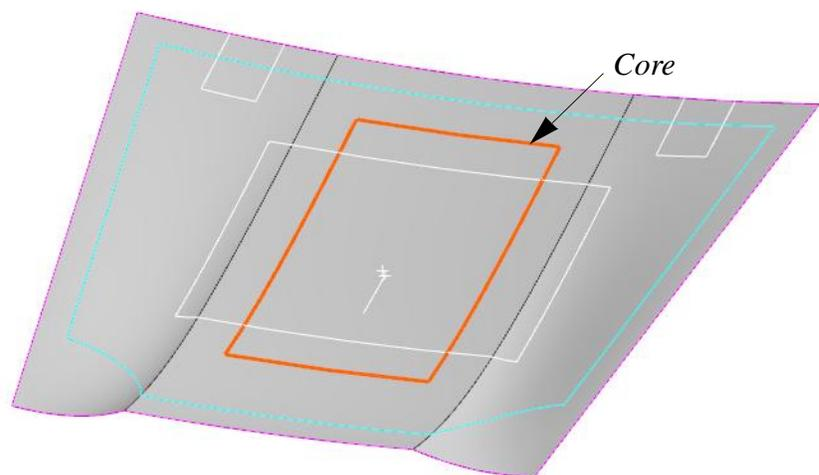

Figure 9–8
3. Link the **Core** curve for *Boundary* as shown in Figure 9–8.